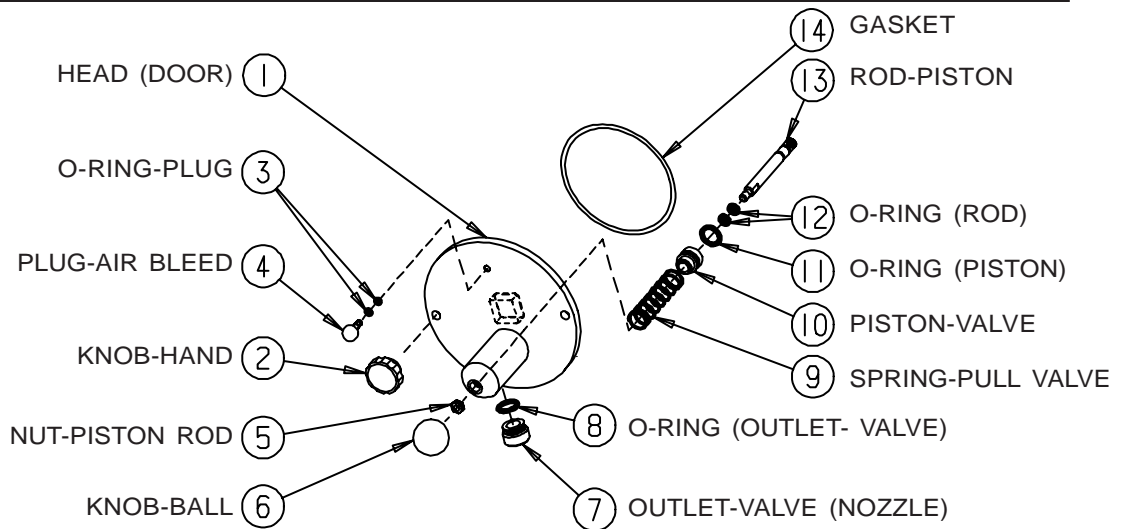

Figure 7-4
9. Assemble piston assembly (figure 7-4, items 10, 11, 12, 13) by installing the first rod O-ring (12) in groove farthest from the threads on piston rod (13). Then slide piston (10) over O-ring, large diameter end first. Now install the second (holding) rod O-ring (12) on rod (13) in groove closest to the threads. Install and lubricate piston O-ring (11).
10. Insert spring (9) into back side of head piston body.